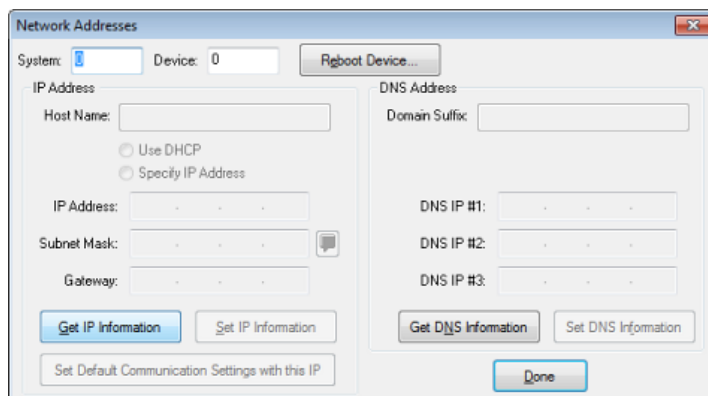

FIG. 12 NetLinX Studio: Network Addresses dialog
1. In NetLinX Studio, select **Diagnostics > Network Addresses** from the Main menu to access the Network Addresses dialog (FIG. 12).